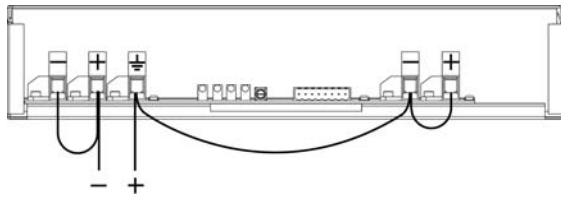

Figure 9. Input to output and input to case isolation voltage test.
4. Connect your isolation tester between input and case. See *Figure 9. Input to output and input to case isolation voltage test.* Raise the voltage of the isolation tester from 0 to actual test voltage (see *Table 2*). Check that the leakage current does not exceed $5\mu\text{A}$. The voltage should not be applied for more than a few seconds or the Y-capacitors might be damaged.
3. Connect the input terminals together see *Figure 9. Input to output and input to case isolation voltage test.*
4. Connect your isolation tester between input and case. See *Figure 9. Input to output and input to case isolation voltage test.* Raise the voltage of the isolation tester from 0 to actual test voltage, see *Table 2*. The voltage should not be applied for more than a few seconds or the Y-capacitors might be damaged.